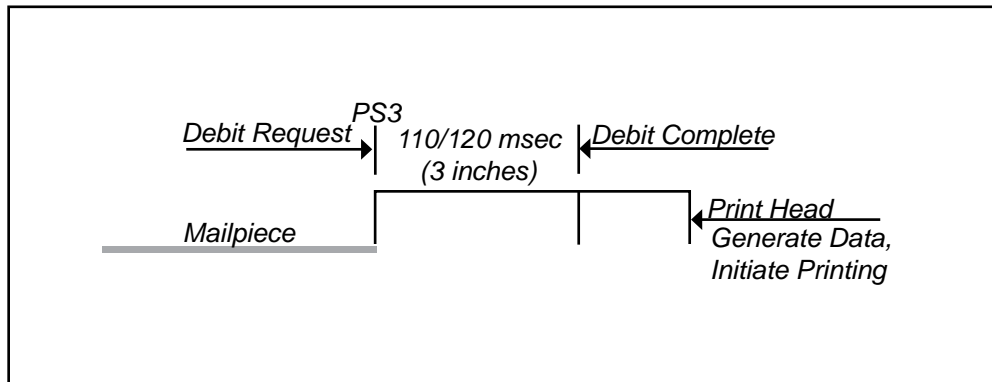

Figure 3-17 Debit and Print Timing
is detected and PS1 and PS3 are blocked, PS3 triggers the meter debit process. When PS3 triggers, the required postal funds are spent. As shown in Figure 3-17, the system logic allows a time window of 110/120 msec or roughly three inches of paper travel for the debit process to complete successfully. If it fails, the meter is not debited, printing is inhibited and a fault declared.
4. The tape feeds to PS2/PS3 where skew detection is performed (3C00 Only). The meter debit process is initiated by PS3. As noted earlier, all three transport sensors must be blocked by the tape strip and the debit process must occur successfully within the 110/120 msec window as illustrated in Figure 3-17.